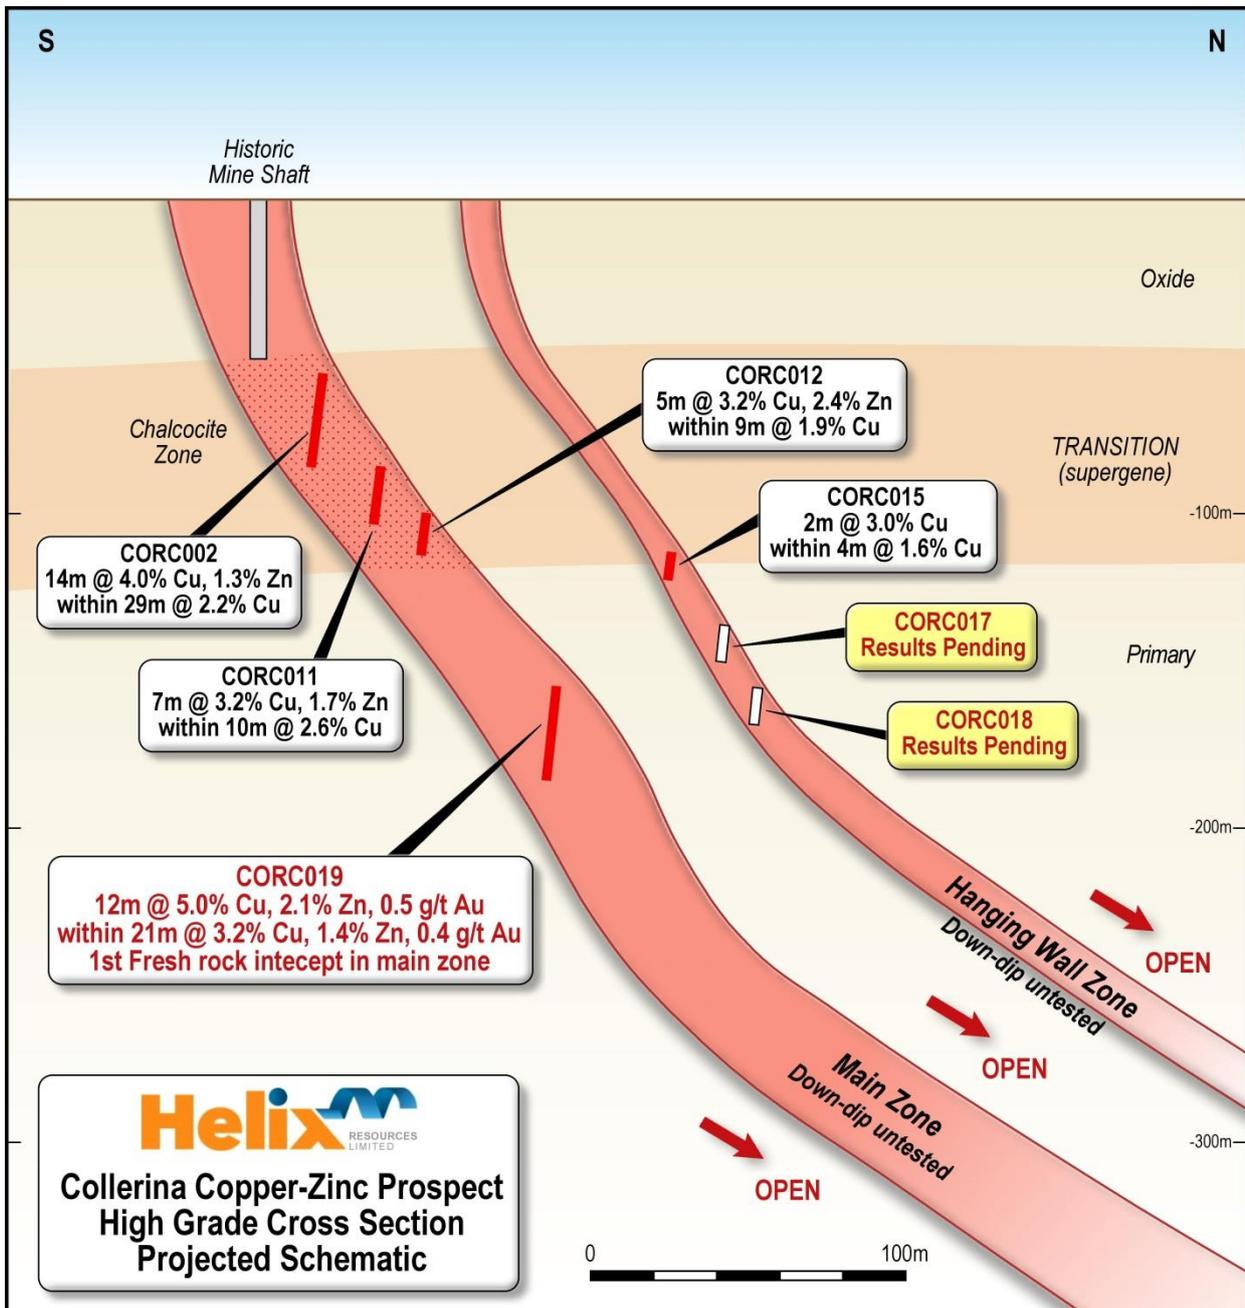

Figure 1: Cross section schematic illustrating the high grade main zone and hanging wall zone.
- The drill hole is located 250m east of the previous high grade intercept of 14m @ 4% Cu & 1.3% Zn¹ (ref: Figure 1).
The RC drilling program was designed to test a priority down hole EM target (located east of previous drilling) and to assess a revised geological model, which now includes a main mineralised zone and a second hanging wall zone (refer to Figure 1 which illustrates the main zone and hanging wall zone). The remaining holes CORC017 and CORC018 were targeting the EM position and intersected the hanging wall zone. Results are pending.